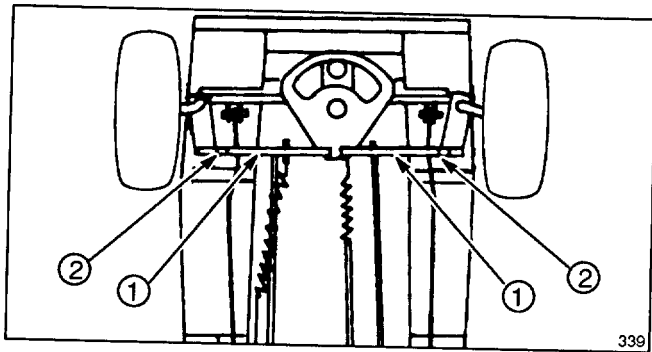

Figure 30
1. To align front wheels, loosen jam nut and turn tie rod ends until centerline distance across front of wheels (d') is .06 inch (1.5 mm) to .25 inch (6.3 mm) less than centerline distance across rear of front wheels (d'') (Figs. 30 & 31).